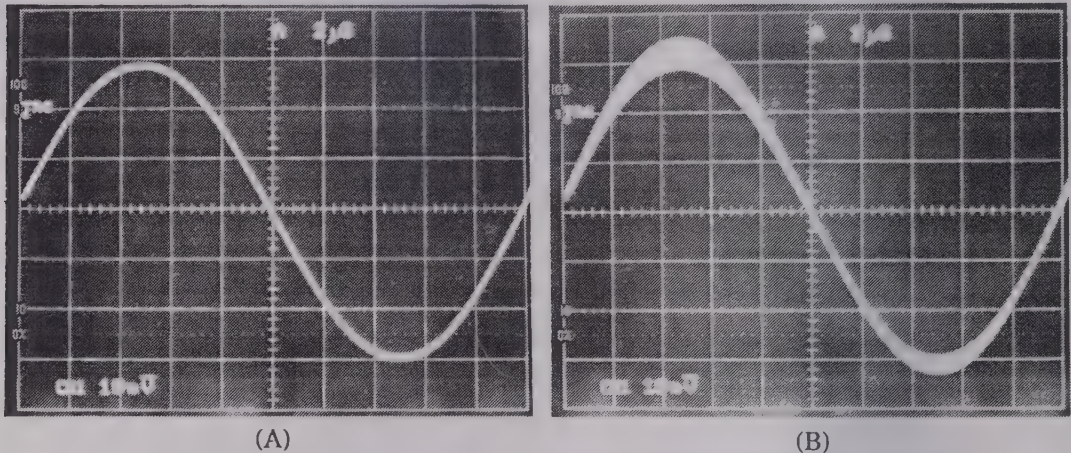

Fig. 4-42 Storage waveform obtained when adjusting  $2\mu\text{s}$  sweep
- (5) Perform initial setting of the instrument in accordance with Table 4-3.
- (6) Apply a 50kHz sin wave from constant amplitude generator to CH1 input, and adjust the signal output so that the waveform on the CRT screen is 6 DIV.
- (7) Set "TIME/DIV" to  $2\mu\text{s}/\text{DIV}$ , and set "STORAGE/REAL" to "STORAGE".
- (8) Confirm that a clean sine wave appears on the CRT screen, as shown in Fig. 4-42 (A). If the waveform contains a chopped component, as shown in Fig. 4-42 (B) adjust CH1 GAIN ADJ (RV1) on board A15 shown in Fig. 4-44.
- (9) Set "VERT MODE" to CH2 ONLY, and connect the signal output to CH2.
- (10) Confirm that a clean sine wave appears on the CRT as shown in Fig. 4-42 (A). If the waveform contains a chopped component as shown in Fig. 4-42 (B) adjust CH2 GAIN ADJ (RV2) on board A15 shown in Fig. 4-44.
- (11) Turn off the power switch, and reinstall the board.